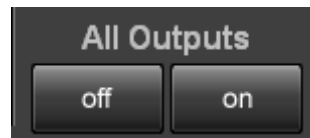

Figure 4.4-1 All Outputs Button
1. Click **on** as shown in Figure 4.4-1.
1. Click **off** as shown in Figure 4.4-1.